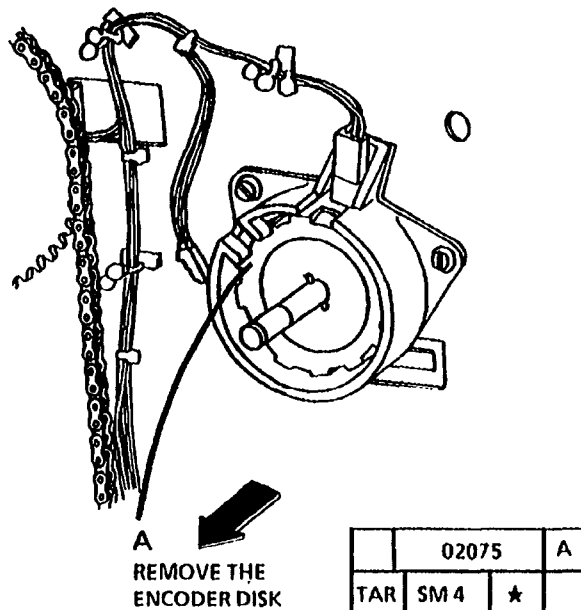

Figure 1. Remove the Encoder
4. (Figure 1): Remove the Encoder Disk.